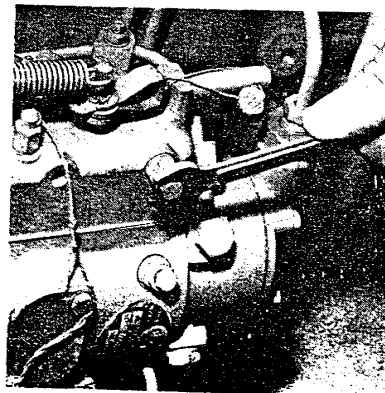

Fig. 4.
1. Slacken air vent valve on side of control gear housing (see fig. 4).